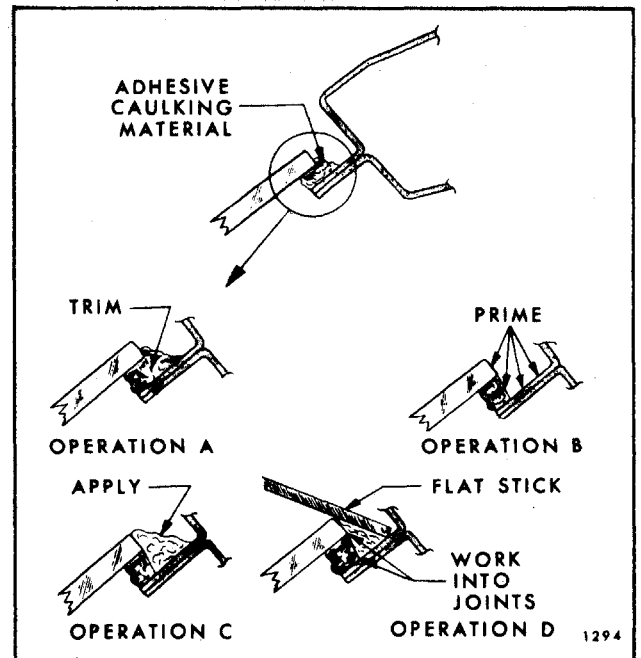

Fig. 11-12 - Adhesive Glass Waterleak Correction
4. Using a sharp knife, trim off uneven edge of adhesive material (see operation A, Fig. 11-12)
5. Prime affected area, as shown in operation B, Figure 11-12, with primer supplied in kit. Thoroughly agitate primer prior to use. Allow primer to dry 5 minutes.
6. Apply adhesive material, as shown in operation C, Figure 11-12, at leak point and 3" to 4" on both sides of leak point or beyond limits of leak area.
7. Immediately after performing step 6, use flat stick or other suitable flat-bladed tool to work adhesive material well into leak point and into joint of original material and body to effect watertight seal along entire length of material application (see operation D, Fig. 11-12).